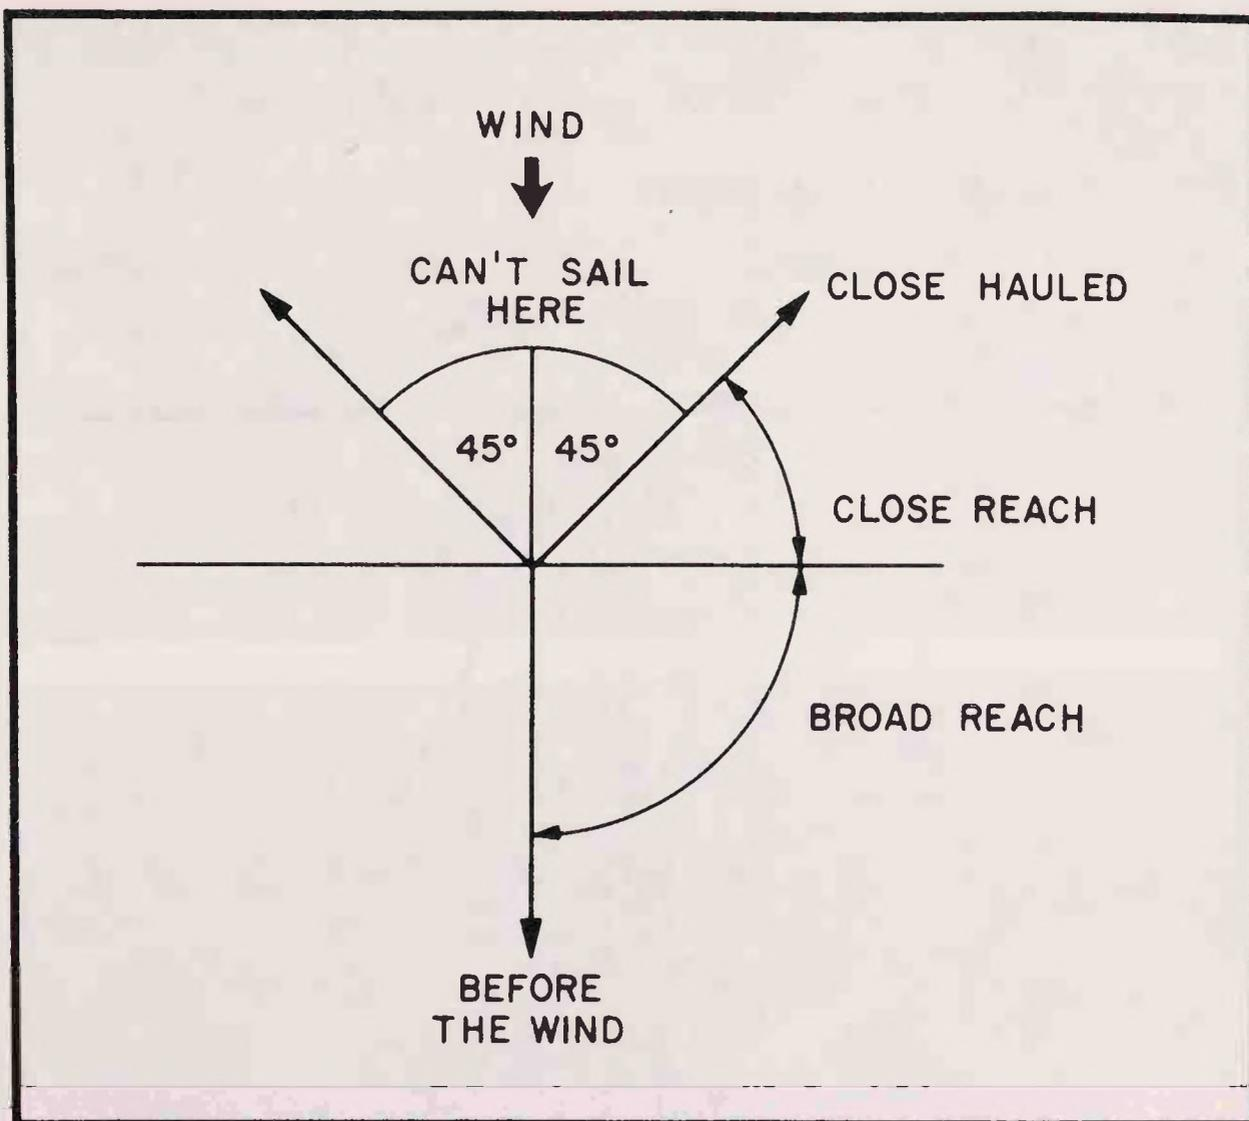

Fig. 11-3. Pointers on wind and sailing.
1. You cannot sail your boat directly into the wind. The closest is an angle of about 45° to the direction of the wind (Fig. 11-3).
3. To *come about* (sail with the wind coming over the other side of the boat), have the boat *close hauled* (Fig. 11-3) and moving well. Turn it sharply into the wind and hold the rudder until the sail starts to fill on the other side, then return the rudder to center. To sail into the wind, first sail
4. To sail in the other direction, on a close reach, a broad reach, or before the wind (Fig. 11-3), the most important